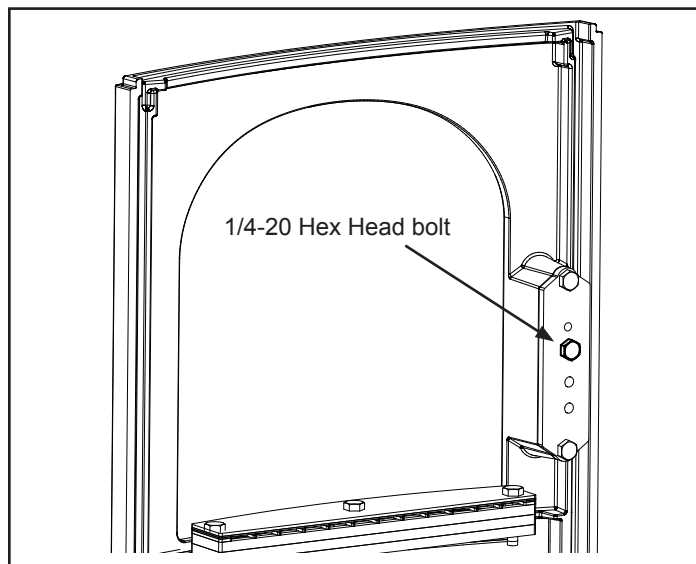

Figure 9.1 - Loosen 1/4-20 Hex head Bolt
1. Slightly loosen the 1/4-20 Hex bolt located at the rear of the latch assembly inside the firebox, Figure 9.1.